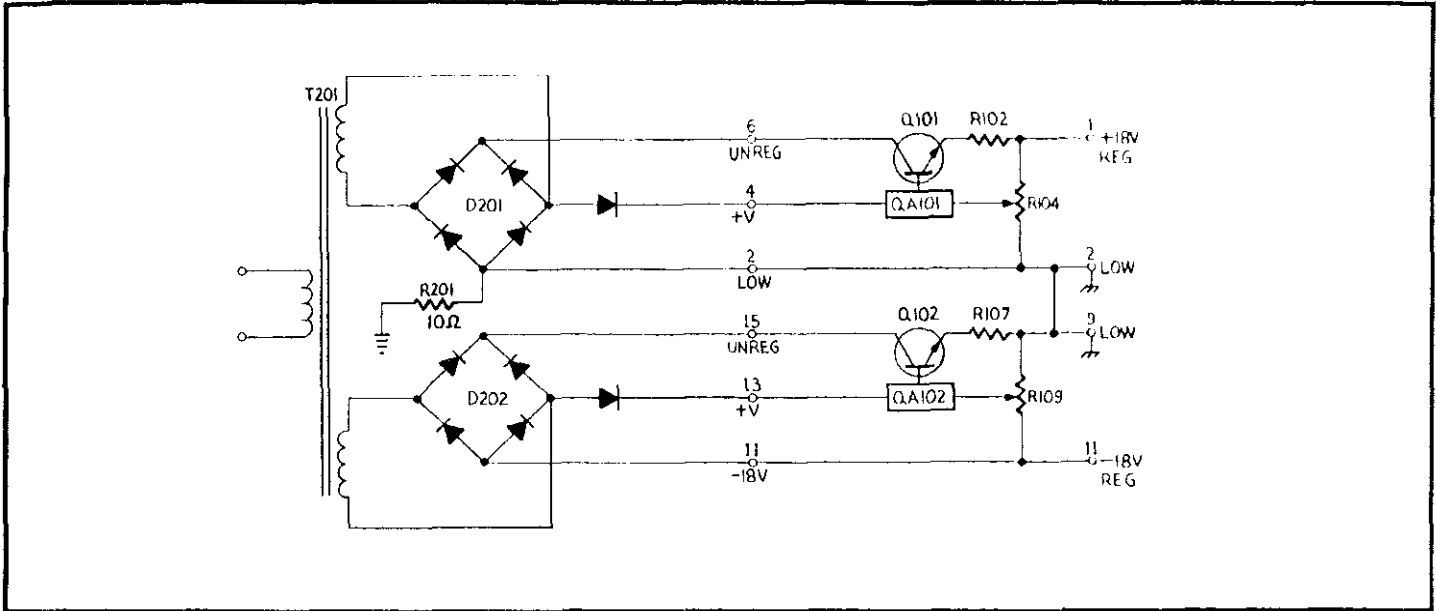

FIGURE 27. ± 18v Power Supply.
b. Regulator Board. The  $\pm 18\text{V}$  regulators are composed of identical components. The regulators are connected as shown in Figure 27.